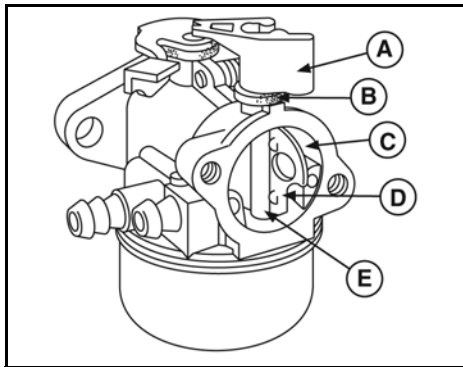

Figure 30
2. Install new foam seal (B, Figure 30) on choke shaft (E), then slide shaft into carburetor body (C). Rotate shaft clockwise (A), and insert choke valve into slot until centered, with dimples (D) positioned as shown. Actuate the choke shaft to check for proper movement.